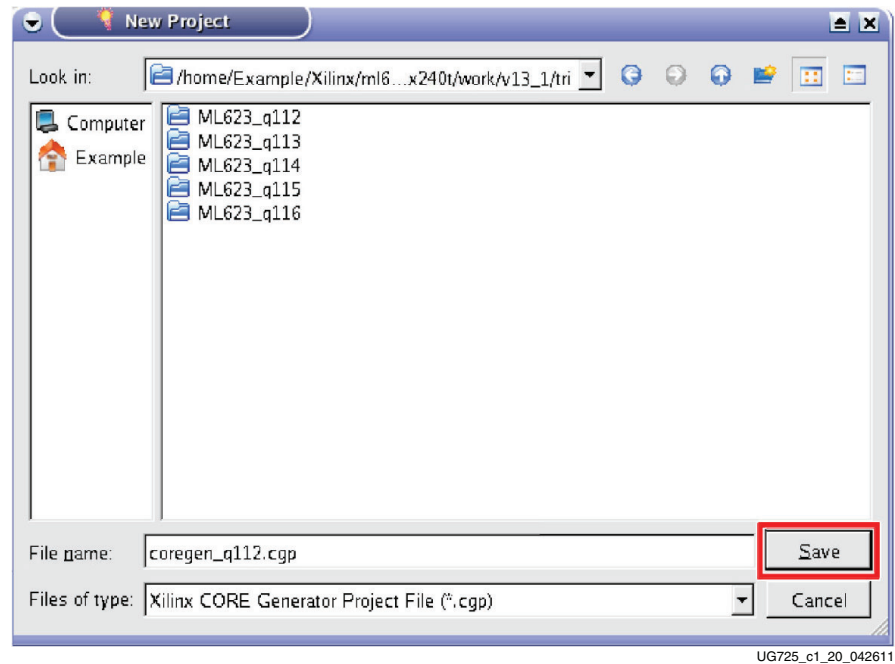

Figure 1-20: **Save New Project**
5. Name the project `coregen_q112.cgp` and click **Save** (Figure 1-20).